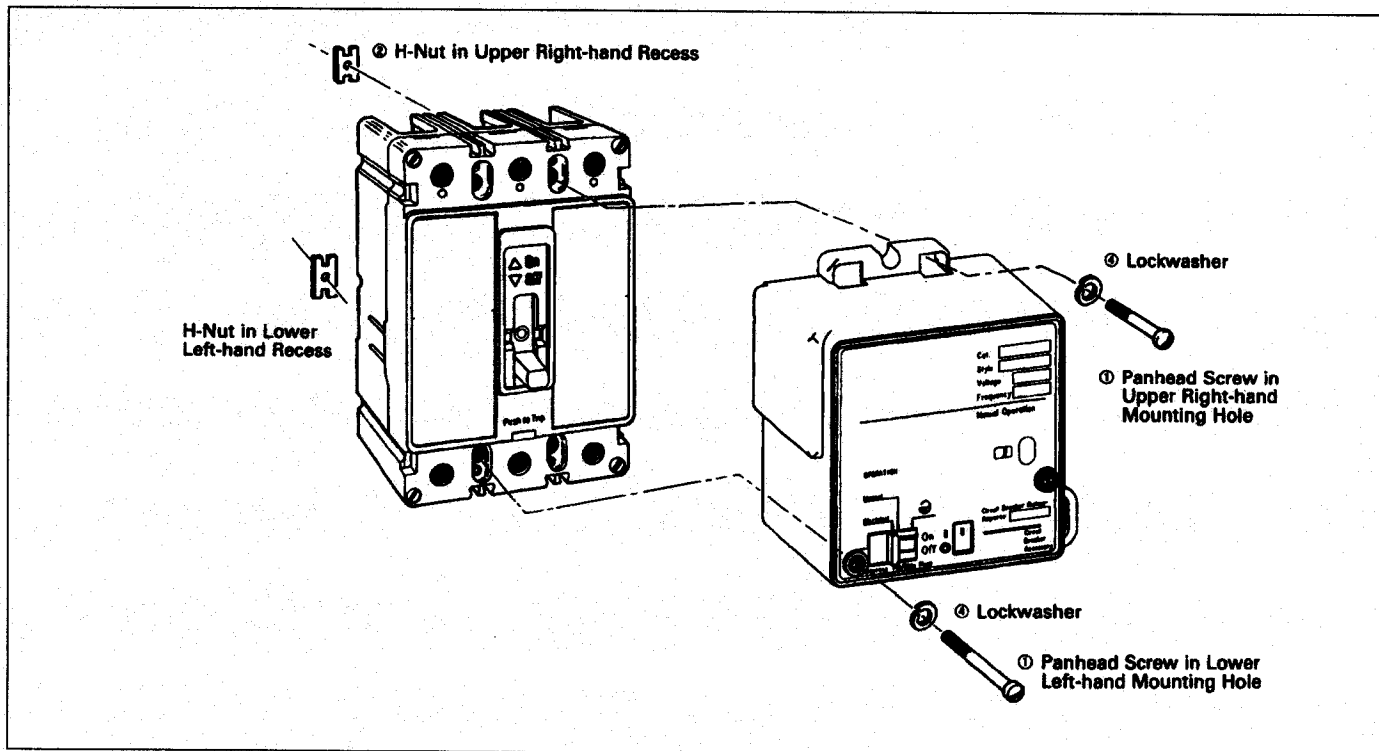

Fig. 2-4. Electrical Operator Mounting Hardware (See Table 2-1)
- 2-9. Secure electrical operator to circuit breaker using hardware as shown in Fig. 2-4 and Table 2-1.